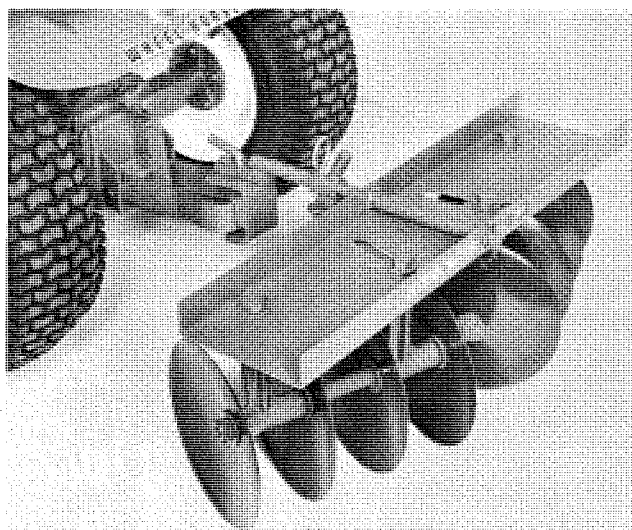

FIGURE 3
1. **Clevis Type A** — If the tractor is equipped with a clevis hitch, the disc hitch clevis must be installed on the hitch bar with the $\frac{1}{2}$ -13 x $1\frac{3}{4}$ bolt and nut as shown in Figure 3. **Note:** The stabilizer bolts should not be tightened for operation thus allowing the disc to pivot for turns. Tighten the stabilizer bolts when transporting the disc. When extra weights are added, it is not possible to lift the disc with the hand lever and the discs should be set at 0° for transporting.